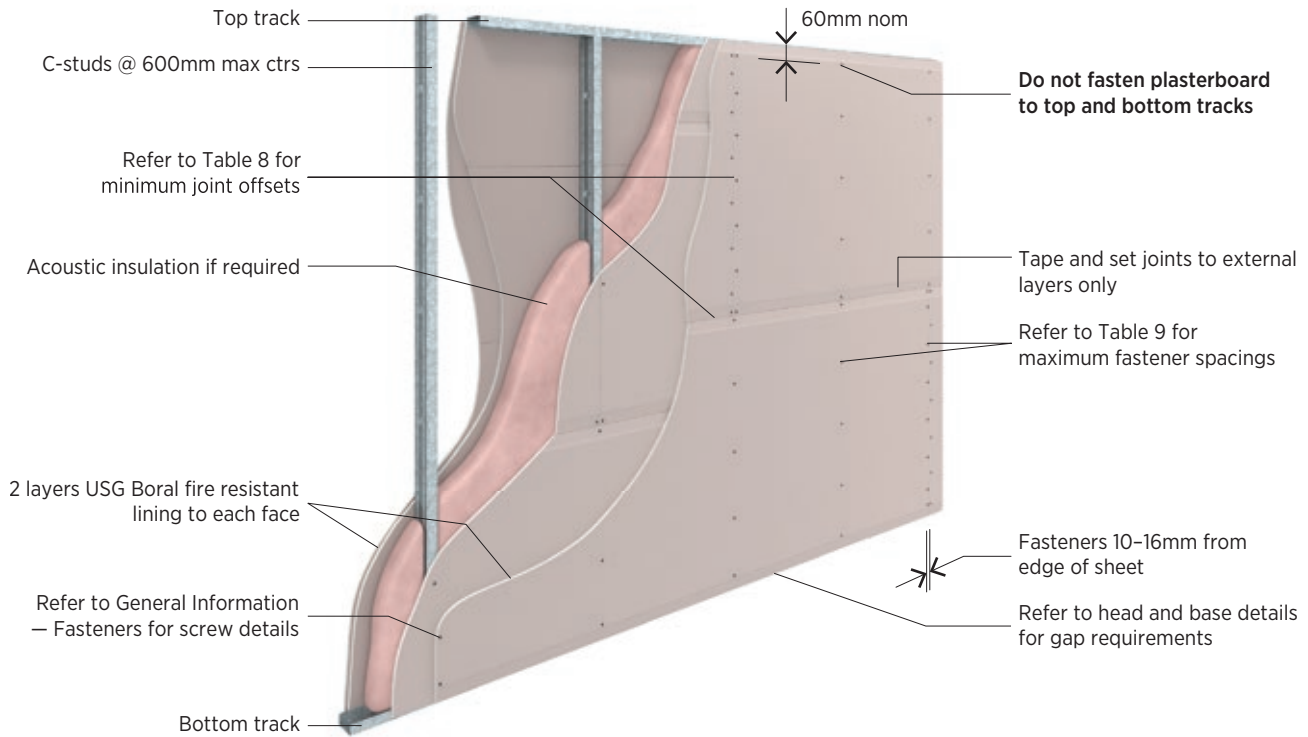

Figure 8: Fire-rated Steel Stud - Horizontal Fixing - Multiple Layer
- Refer to Figures 8 and 9 for screw layouts in multiple-layer fire-rated steel stud systems.